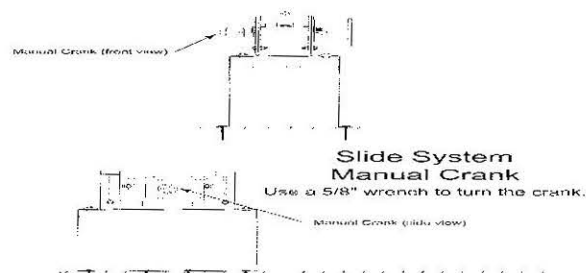

Fig. 08-14 - Slide System Motor Illustration
2. Then, retract the room by turning the hexagonal stop shaft located on the motor gear box. This will take a considerable amount of time. (See Fig. 08-14)